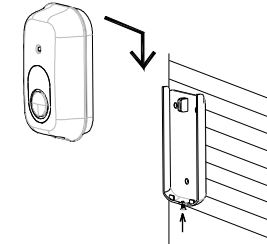

FIGURE 7
4. Slide the unit down to the rear cover and lock the screw clockwise (FIGURE 7).